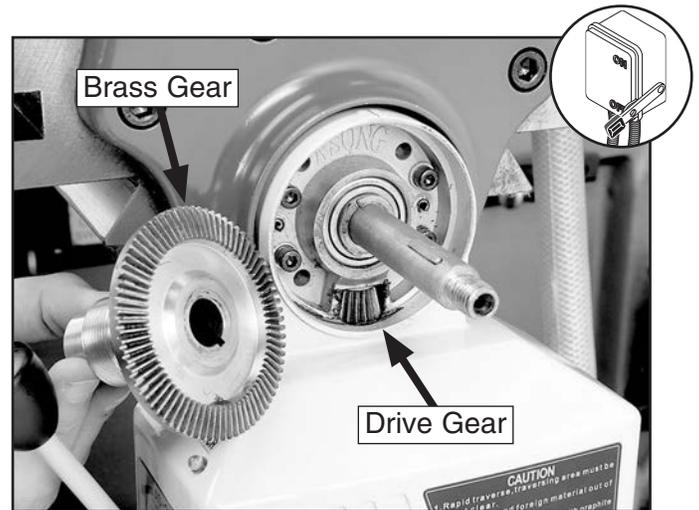

Figure 62. Power feed gears.
5. Brush medium weight white lithium grease on the teeth of the brass gear and the smaller drive gear (see **Figure 62**).